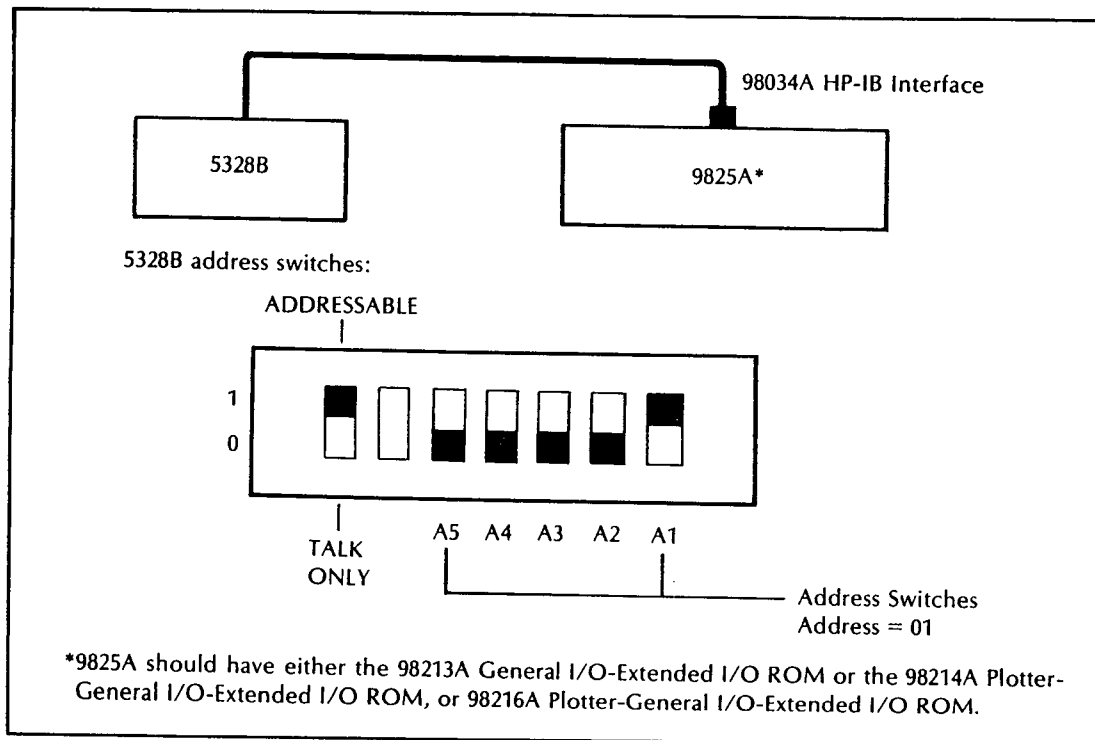

Figure 4-17. HP-IB Verification — Test Connections and Address Switch Settings
- a. Set up the Model 5328B as shown in *Figure 4-17*.